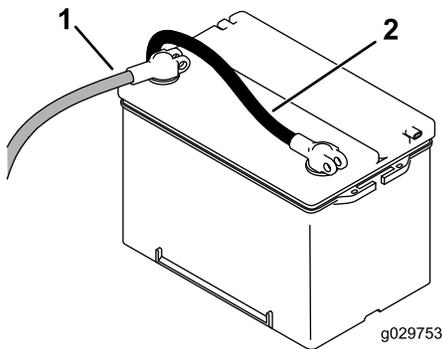

Figure 50
- To de-energize the machine electrically, rotate the battery-disconnect switch counterclockwise to the OFF position (Figure 50).
5. Install the positive cable (red) to the positive (+) terminal and the negative cable (black) to the negative (-) terminal of the battery (Figure 50).